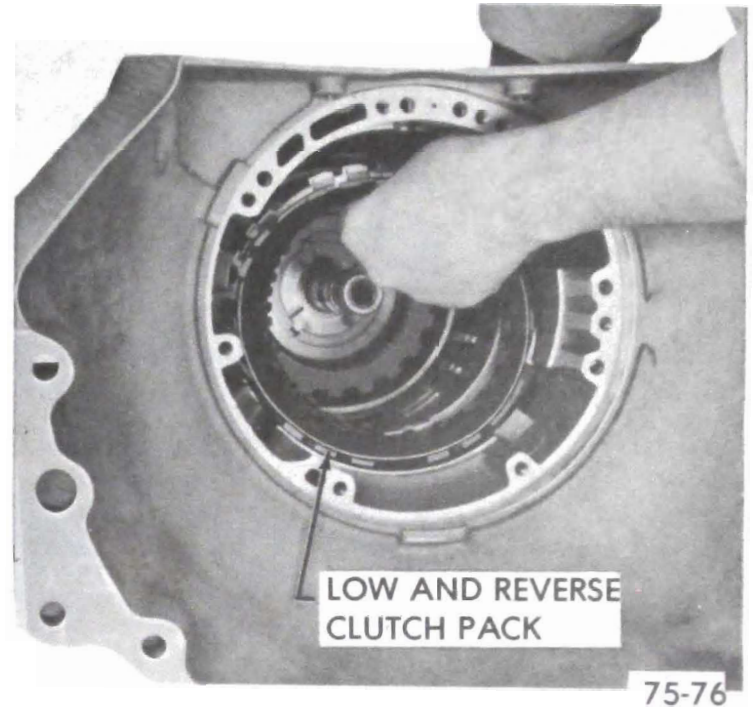

Figure 75-232
1. Oil and install five (5) low reverse clutch steel separator plates and five (5) faced plates, starting with a steel plate and alternating with faced plates. See Figure 75-232.